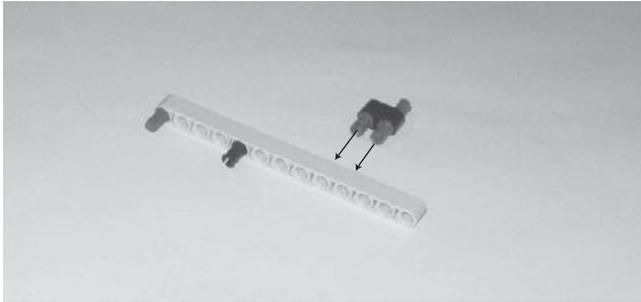

Figure 10.8
Step 1: Take a 13M straight beam and connect a connector peg with friction and cross axle to it and then take a 2M straight beam and connect a connector peg with friction and cross axle and a connector peg with friction 3M to it, as shown in Figure 10.8.